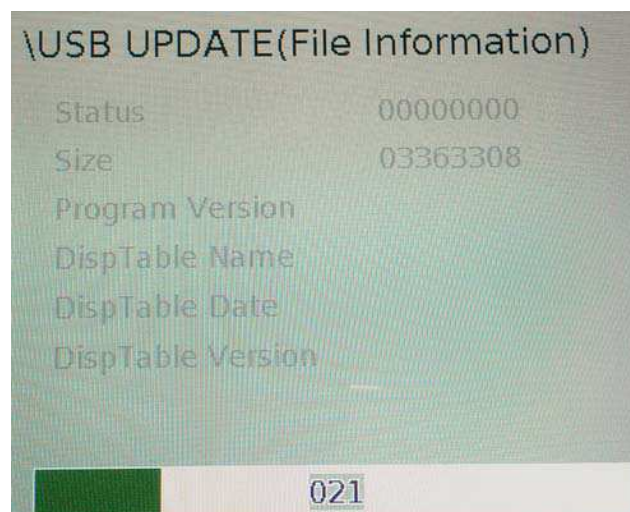

Fig. 1.2
5. Select AllCompBase.bin and Press OK, the process will shown as figure 1.2.